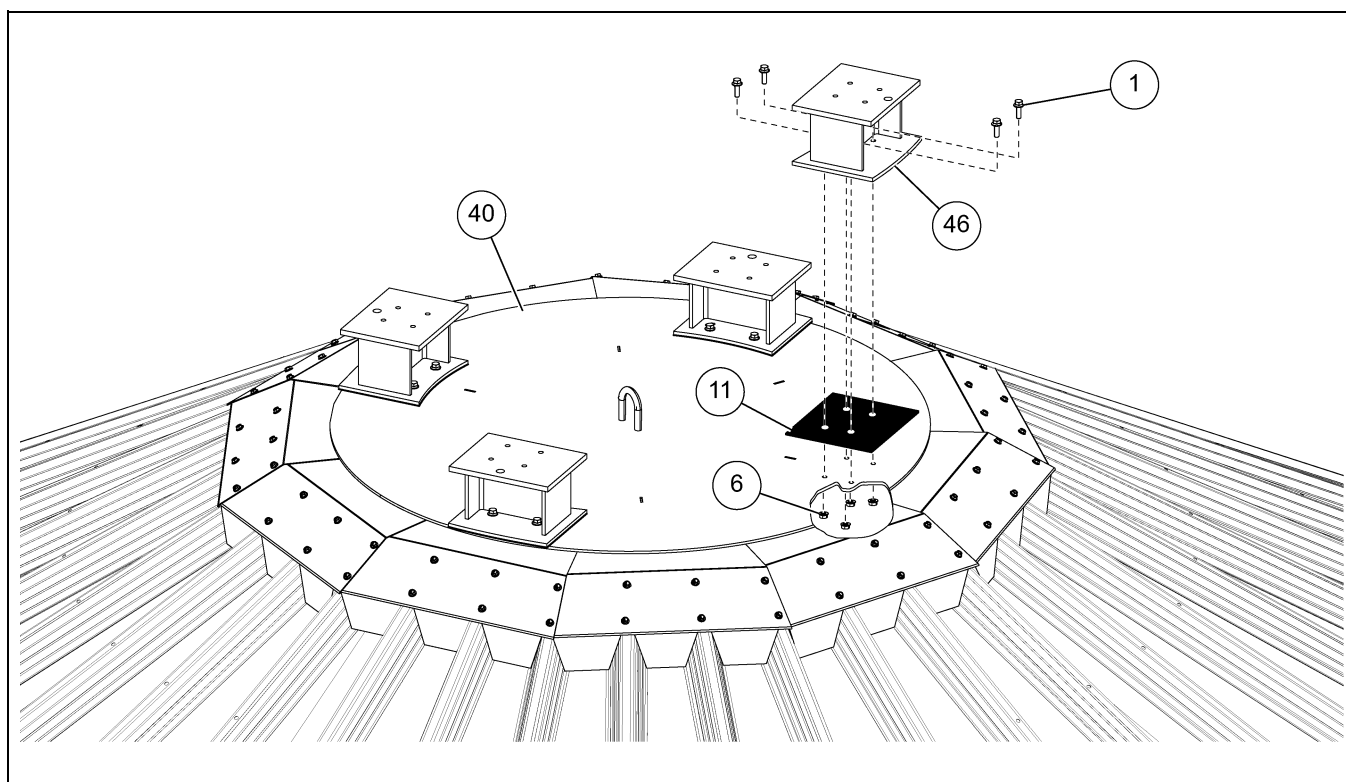

Figure 4AB Installing the Conveyor Support Brackets
2. Position one conveyor support bracket (46) over each gasket (11) and align the holes.
3. Install 3/8" x 1-1/2" flange bolts (1) and 3/8" flange nuts (6) to secure the conveyor support brackets (46) and gaskets (11) with the center cap plate (40) and the roof flashing. (See Figure 4AB.)